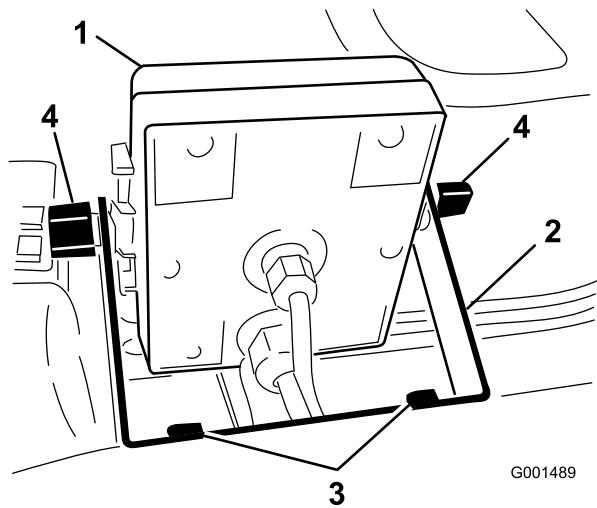

Figure 5
- Install the monitor bracket on the dash (Figure 5) using 2 flange-head bolts (1/4 x 3/4 inch) and 2 flange nuts (1/4 inch).
- Install the Spray Pro monitor over the carriage bolt heads (Figure 5) and tighten the knobs to secure it.